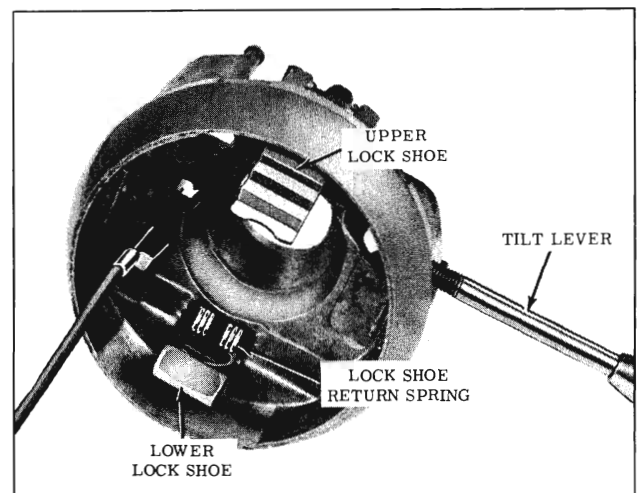

Fig. 4-103 Actuator Housing (Bottom View)
- a. Place the actuator housing on the bench with the lower side up and the turn signal and tilt lever openings on the right side. (Fig. 4-103)